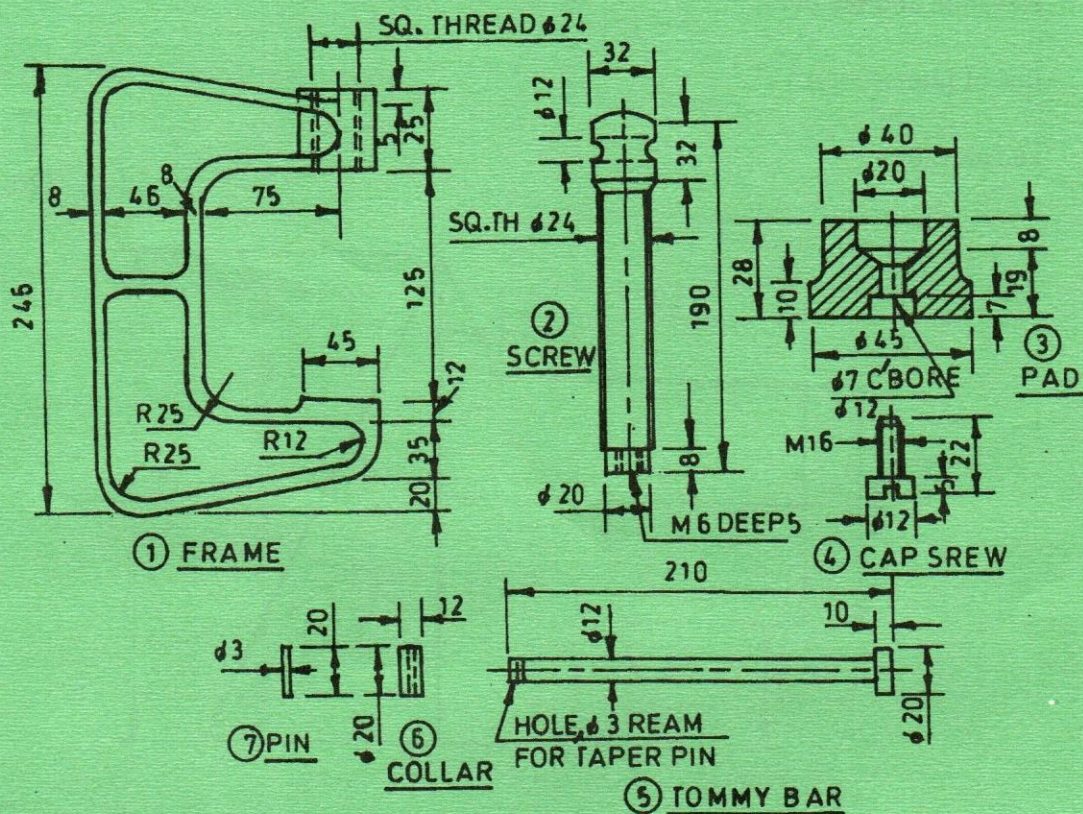

Fig.3
6. Figure 3 shows parts of a C-clamp. Draw an assembly of the C-clamp and include a parts list. (20 marks)